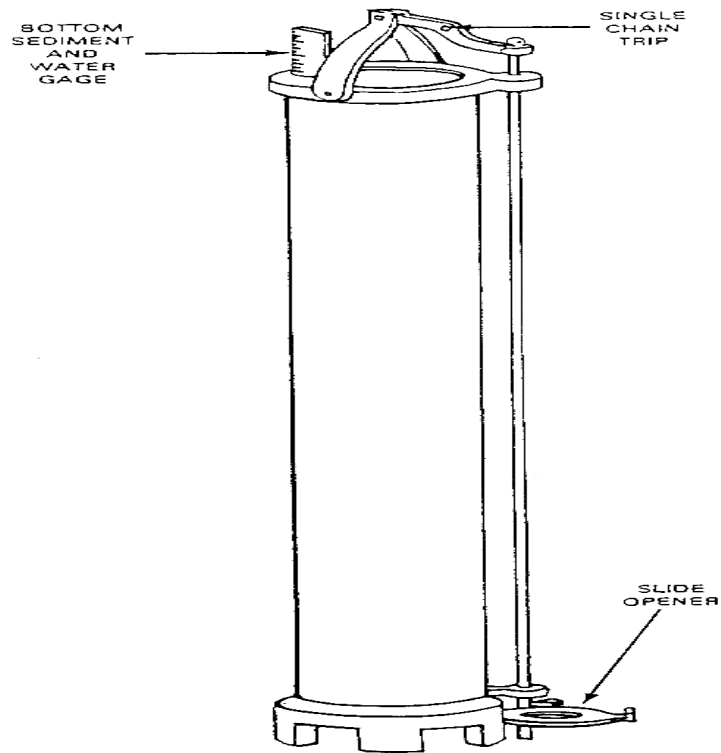

Figure 3-25. Tubular tank thief
- **Tubular Tank Thief (Tulsa Thief).** The tubular tank thief or Tulsa thief (Figure 3-25) is a bottom sampler. It is best suited for taking heavy bottom samples in storage tanks. A chain is used to open the sampler at any depth in the tank.